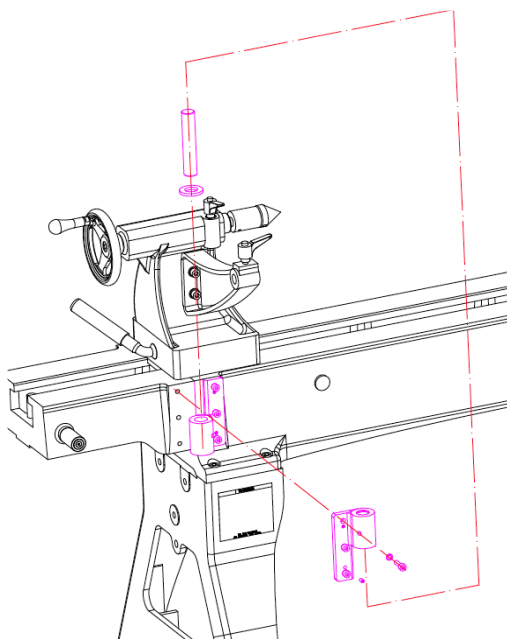

Fig. 11
- 4, Rotate the lock handle until the tailstock locked firmly. Now the extension bed is well aligned with lathe bed (Fig. 11)
- 6, Mount the hinge between lathe bed and extension bed with head cap screws, spring washers and flat washer (Fig.11). **Do not** tighten head cap screws at this moment. Use alan wrench to tun the set screws until it hit beds. Then firmly tighten bolts.